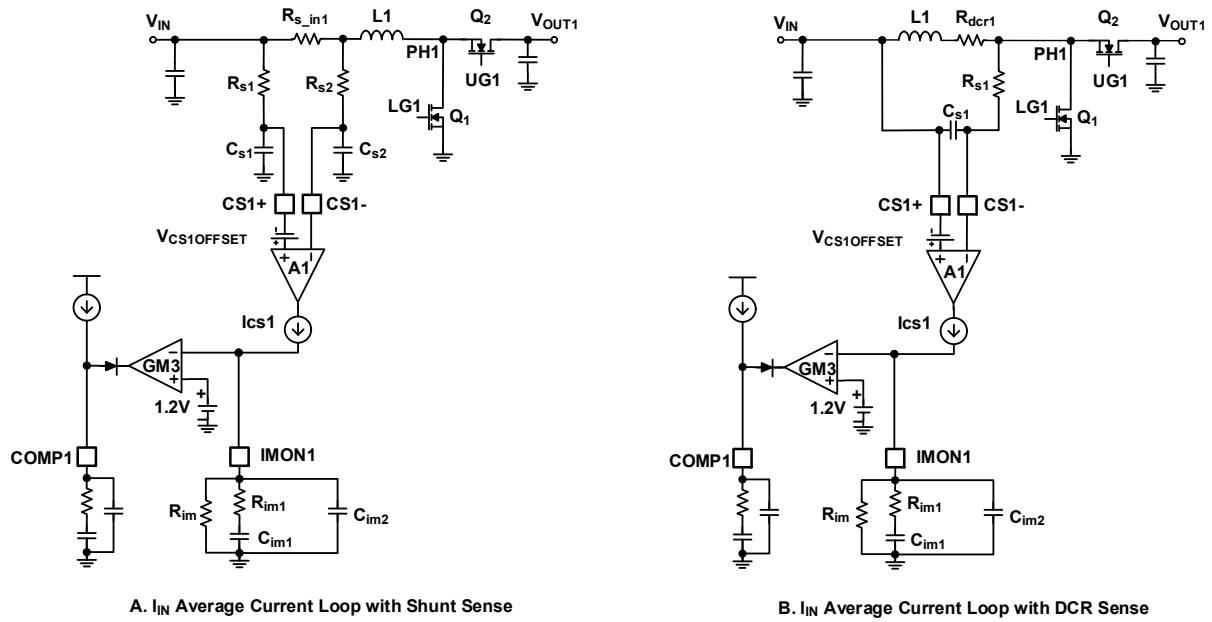

Figure 40. Input Average Current Monitoring and Regulation Loops
The ISL81805 has two current-sense amplifiers (A1 and A2) that monitor the input current of both channels. Figure 40 (A) shows the ISL81805 Channel 1 current shunt sense and monitor circuit which is identical to Channel 2. The voltage signal on the current sense resistor  $R_{S\_IN1}$  is sent to the differential input of CS1+/CS1-, after the RC filters  $R_{S1}/C_{S1}$  and  $R_{S2}/C_{S2}$ . Renesas recommends using a 1 $\Omega$  value for  $R_{S1}$  and  $R_{S2}$ , and a 10nF value for  $C_{S1}$  and  $C_{S2}$  to effectively dampen the switching noise without significantly delaying the current signal or introducing too much error by the op-amp bias current. The A1 amplifier converts the current-sense voltage signal to the current signal  $I_{CS1}$ .
Figure 40 (B) shows the ISL81805 Channel 1 inductor DCR current sense and monitor circuit.  $R_{dcr1}$  plays the same role as  $R_{S\_IN1}$  in the shunt current sense circuit. Renesas recommends keeping  $R_{S1} \times C_{S1} = L1/R_{dcr1}$ . To minimize the error caused by the A1 input bias current, Renesas recommends keeping  $R_{S1}$  less than 10k.
When DE mode is set, Channel 1 and 2 boost sync FET driven by UG1 and UG2 are all running in DE mode. The inductor current is not allowed to reverse (discontinuous operation) depending on the zero-cross detection reference level  $V_{CROSS1}$  for Channel 1 and  $V_{CROSS2}$  for Channel 2 sync FET. At light load conditions, the converter goes into diode emulation. When the load current is less than the level set by  $V_{IMON1BSTEN}$  or  $V_{IMON2BSTEN}$  typical 0.835V on the IMON1 or IMON2 pin, Channel 1 or 2 enters Burst mode. Equation 9 sets the Burst mode operation enter condition for Channel 1 as an example (see Figure 40). The same equation also applies to Channel 2.
As shown in Figure 40 in Input Average Current Monitoring and Regulation Loops, the inductor peak current is sensed by the shunt resistor  $R_{S\_IN}$  and amplifier A1. When the voltage drop on  $R_{S\_IN}$  reaches the set point  $V_{OCSET-CS}$  typical 82mV,  $Q_1$  is turned off. The first-level peak current limit setpoint ( $I_{OCPP1}$ ) is calculated using Equation 12.
In cases of OVP protection, the inductor current becomes too negative. The negative current is sensed by the shunt resistor  $R_{S\_IN}$  and amplifier A1 as shown in Figure 40. When the voltage drop on  $R_{S\_IN}$  reaches the set point  $V_{OCSET-CS-N}$  (typical -60mV),  $Q_2$  is turned off and  $Q_1$  is turned on. The negative peak current limit set point  $I_{OCPPN}$  is calculated using Equation 14.